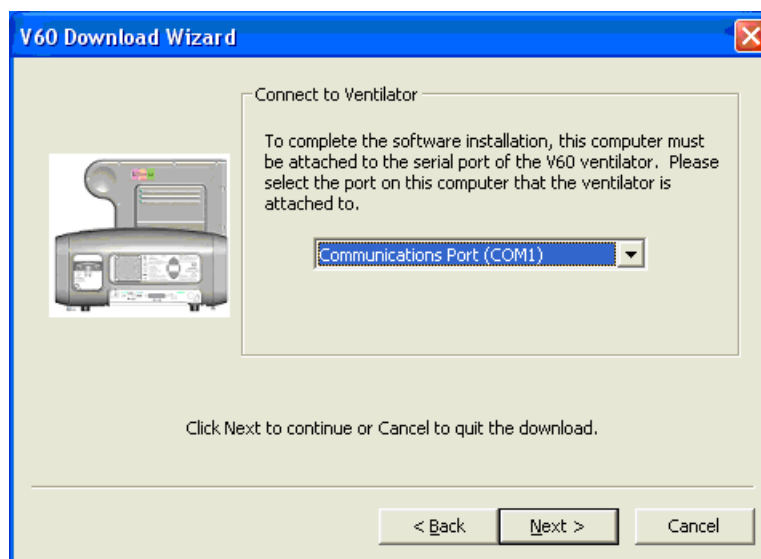

Figure A-4: Serial Port Connection
10. Select the serial port that the V60 is connected to (Figure A-4).